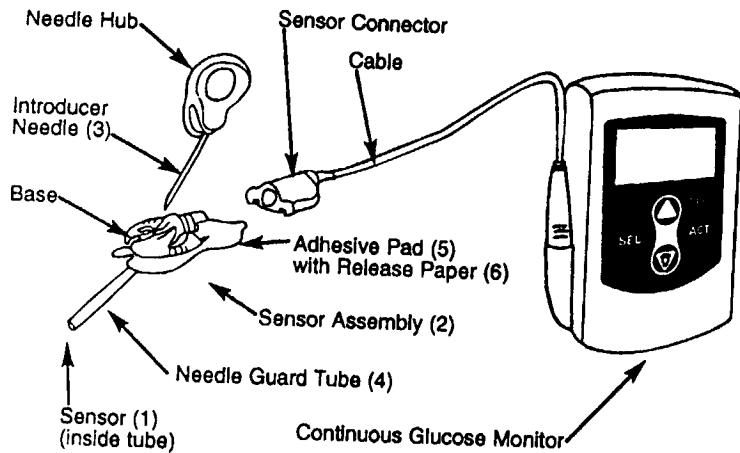

FIGURE 1: Continuous Glucose Monitoring System (CGMS)
3. Assemble the CGMS on a clean, dry surface (Figure 1).